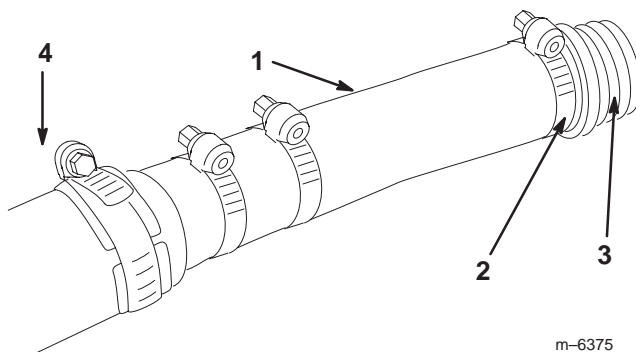

Figure 5
3. Slide a large ratcheting hose clamp (removed from the hose in step 1) over the hose (Fig. 5).
4. Install the fitting all the way into the hose, securing it with the hose clamp (Fig. 5).